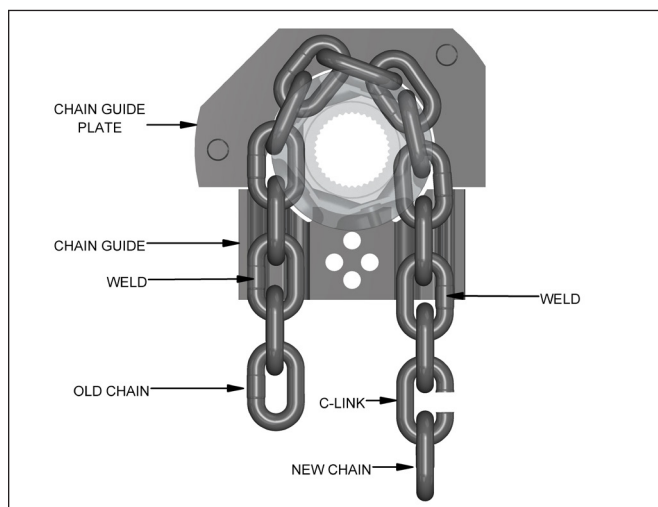

FIGURE 5-3. CHAINING HOIST
- e. Make a "C" -shaped chain link by grinding through one side of the end link of either the old or new chain. See Figure 5-3.